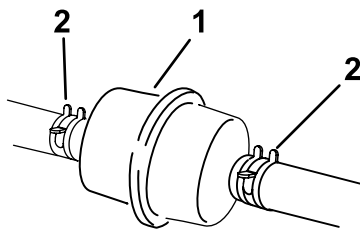

Figure 47
6. Clamp the fuel lines on both sides of the engine fuel filter (Figure 47).
7. Squeeze the ends of the hose clamps together and slide them away from the filter (Figure 47).